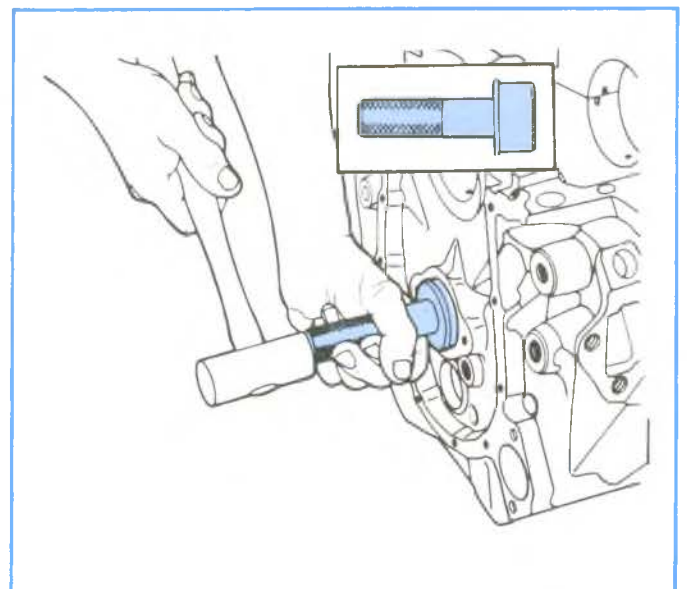

Figure 2-29, Replacing Camshaft Front Bearing
6. Assemble remover and installer tool J-6098-11 for #1 and J-6098-12 for #5 bearing on driver handle and remove camshaft front and rear bearings by driving towards center of cylinder block (Figure 2-29).